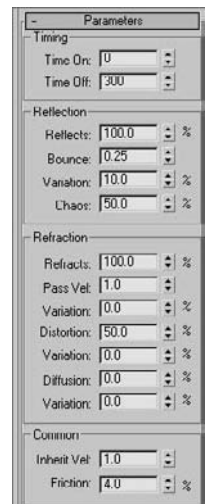

Figure 12.35
9. In the Timing section of the Parameters rollout, set the Time Off value to 300, as shown in Figure 12.35, to leave the deflector on during the entire active time segment.